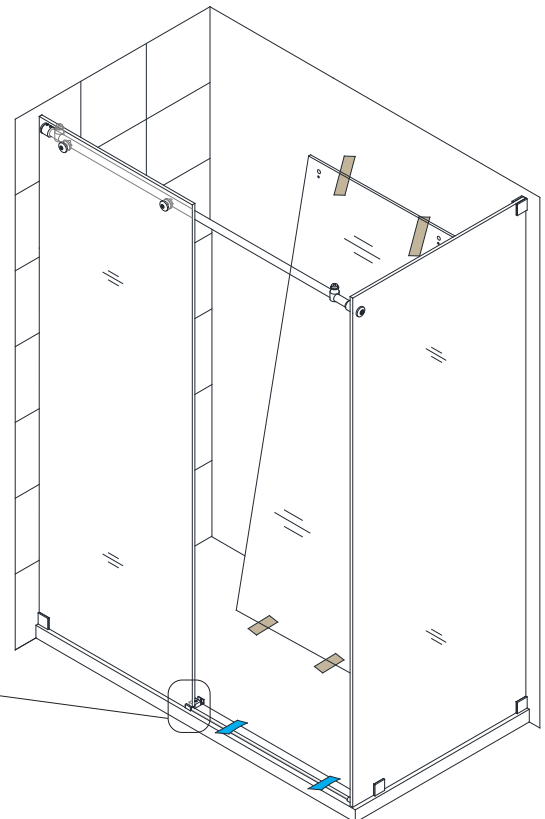

Fig 26
24. Attach the **Guide block face plate** to the installed **Guide Block (#12)** and use the supplied gaskets and sleeve to protect the glass. Tighten the set screw with the supplied allen wrench. Use the supplied Decorative caps to cover the screw holes. **(Fig 26)**